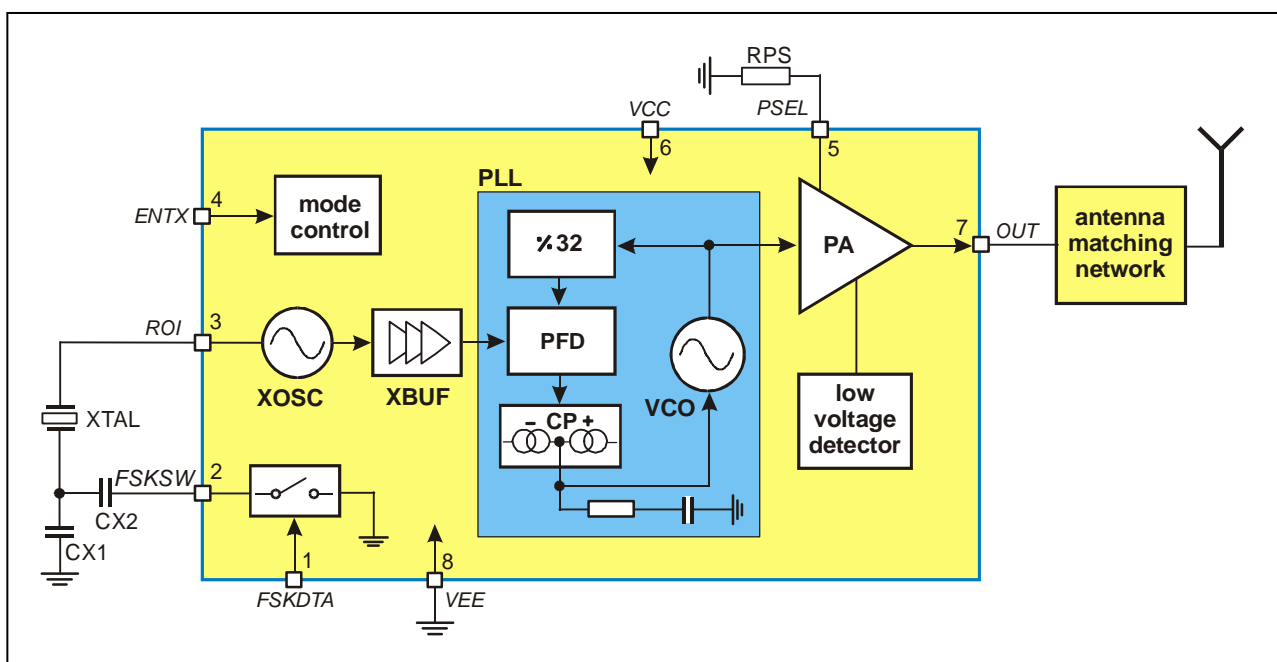

Fig. 1: Block diagram with external components
As depicted in Fig.1, the TH72011 transmitter consists of a fully integrated voltage-controlled oscillator (VCO), a divide-by-32 divider (div32), a phase-frequency detector (PFD) and a charge pump (CP). An internal loop filter determines the dynamic behavior of the PLL and suppresses reference spurious signals. A Colpitts crystal oscillator (XOSC) is used as the reference oscillator of a phase-locked loop (PLL) synthesizer. The VCO's output signal feeds the power amplifier (PA). The RF signal power P_{out} can be adjusted in four steps from $P_{out} = -12$ dBm to +10 dBm, either by changing the value of resistor RPS or by varying the voltage V_{PS} at pin PSEL. The open-collector output (OUT) can be used either to directly drive a loop antenna or to be matched to a 50Ohm load. Bandgap biasing ensures stable operation of the IC at a power supply range of 1.95 V to 5.5 V.